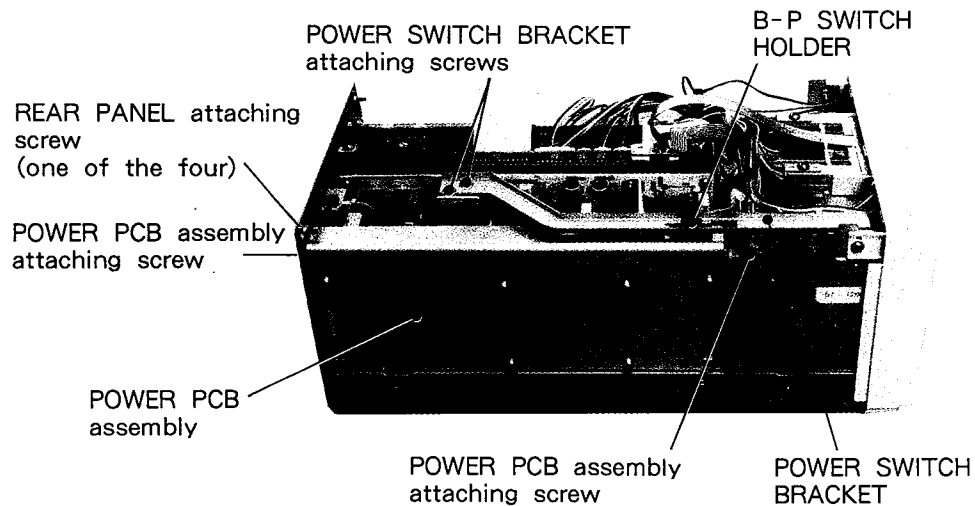

Fig. 7
3. Remove the screws securing the POWER SWITCH BRACKET. (Fig. 7)
4. Remove B-P SWITCH HOLDER and remove the POWER SWITCH BRACKET. (Fig. 7)
5. Remove screws securing POWER PCB assembly. (Fig. 7)
6. Remove one (top right) of the four screws securing the REAR PANEL. (Fig. 7)
4. Remove the B-P SWITCH HOLDER and remove the POWER SWITCH BRACKET. (Fig. 7)
5. Remove the screws attaching POWER PCB assembly. (Fig. 7)
3. Remove the screws securing POWER SWITCH BRACKET. (Fig. 7)